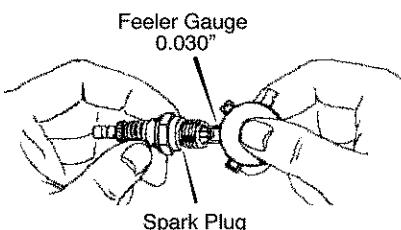

Figure 13
2. Check the spark plug gap with a feeler gauge and reset gap to 0.30" if necessary. See Figure 13.